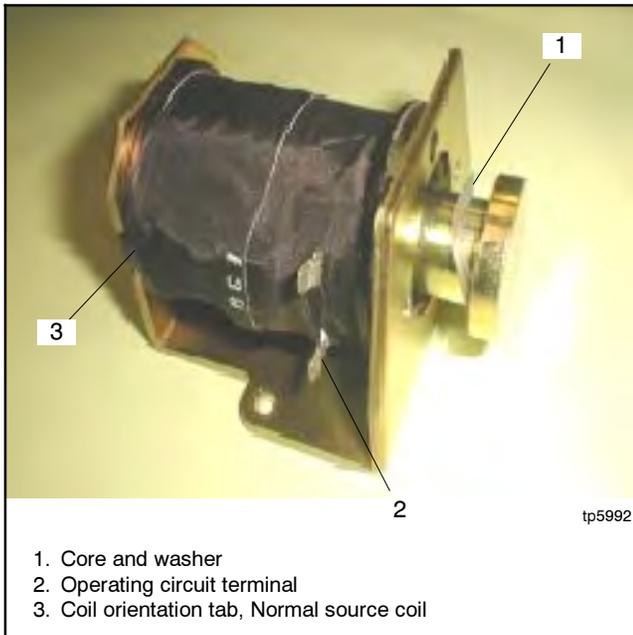
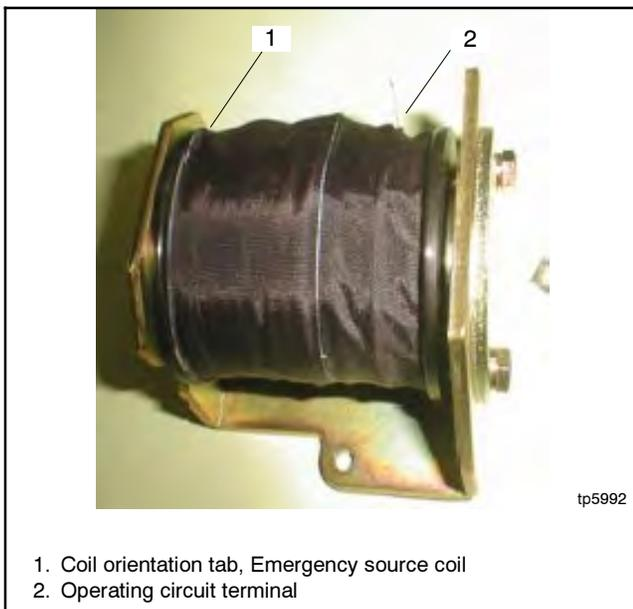

Figure 7-9 Coil Assembly, Normal Source Coil Shown (note the coil orientation)
Figure 7-10 Emergency Source Coil Assembly (note the coil orientation)
1. Position the coil in the bracket with the tab on the top of the coil and operating circuit terminal oriented as shown in Figure 7-9 for the Normal source coil or in Figure 7-10 for the Emergency source coil.
2. Insert the steel core with washer into the coil. See Figure 7-9.